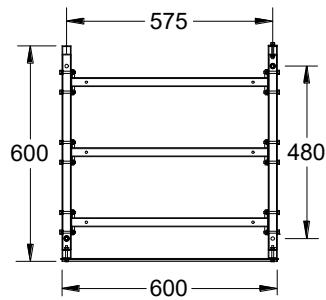

Figure 8 Installation dimensions (unit: mm)
1. Fix the battery rack to the ground according to the installation dimensions shown in Figure 8. The fixing bolts are accessories.